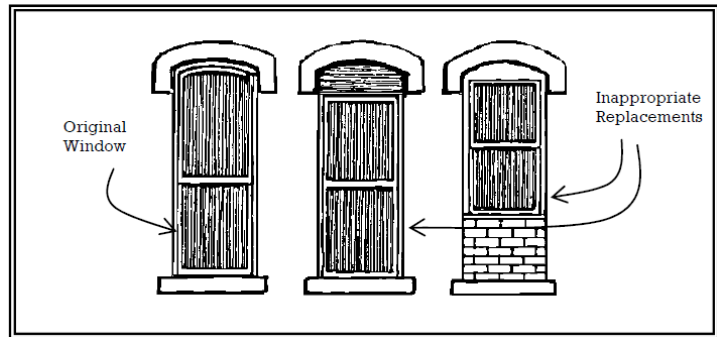

Figure 4
- B. Window Replacement:** Sometimes repairs may be impractical and the only option available is replacement. If you're replacing only one window, find a replacement that matches the existing units. If you cannot find a suitable replacement, consider having one custom made. Wood is the preferred choice, however if you must use aluminum or vinyl, a darker color is preferred. Do not alter the existing window opening to fit new windows and do not install windows that are not in keeping with the style of your building (See Figure 4).